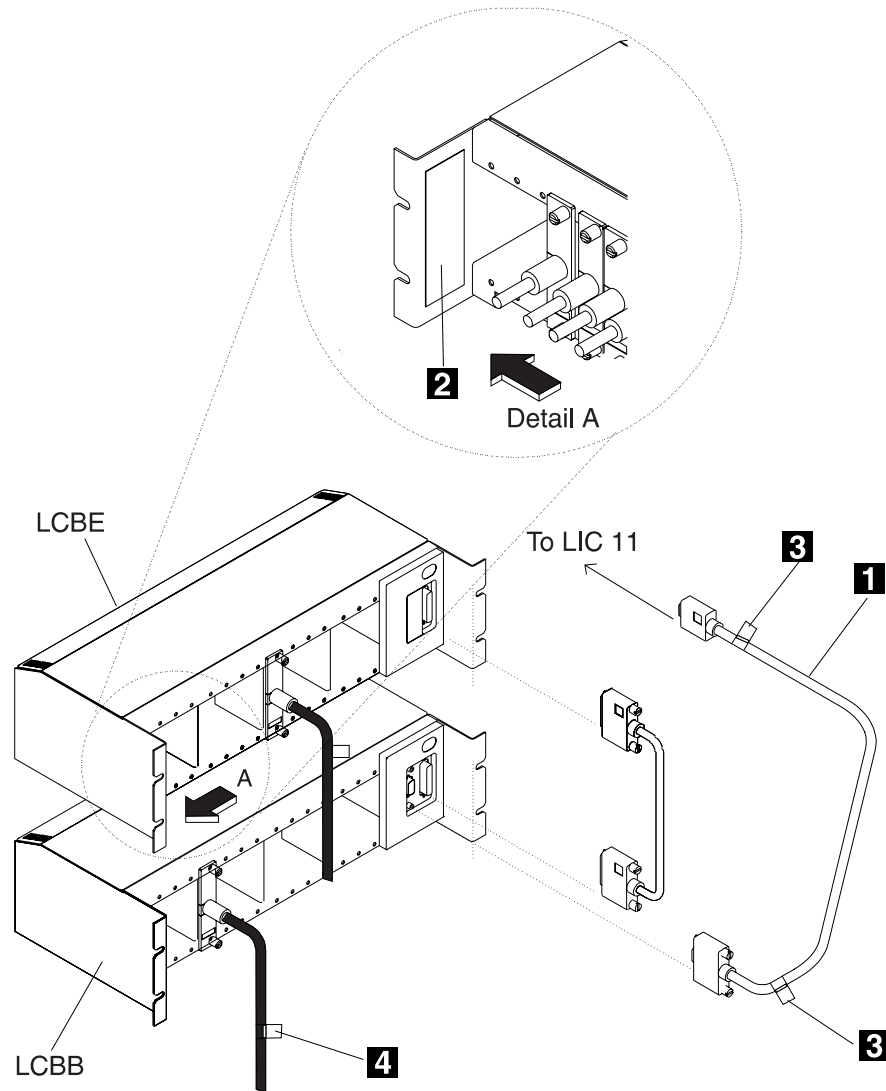

Figure C-10. LCB and LCBE Connections (Installed with ARC Assembly A)
- Step 3** Put the label on the inner left side of the LCB (see **2** in Detail A of Figure C-10 on page C-15).
**Step 11** Put two identical labels at both ends of the cable (see the two **3**s in Figure C-10 on page C-15).
**Step 12** Connect the LIC11 cable to the LCB base and tighten the cable plug retaining screws (see “Unplugging or Plugging In LIC Cables” on page C-7 for details, and also **1** in Figure C-10 on page C-15).
**Step 5** Put ARC labels at both end of the cable (see **4** in Figure C-10 on page C-15). Remove any old labels first.